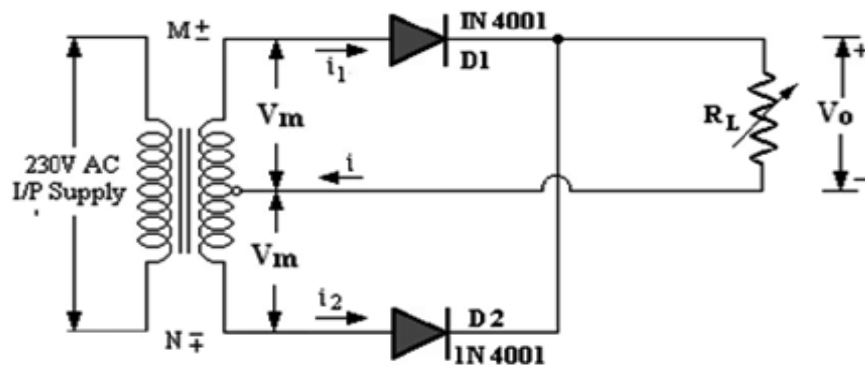

Figure 1: Full Wave Rectifier
1. Connect the Electronic circuit for Center Tapped Full wave rectifier on bread board as shown in Fig 1.